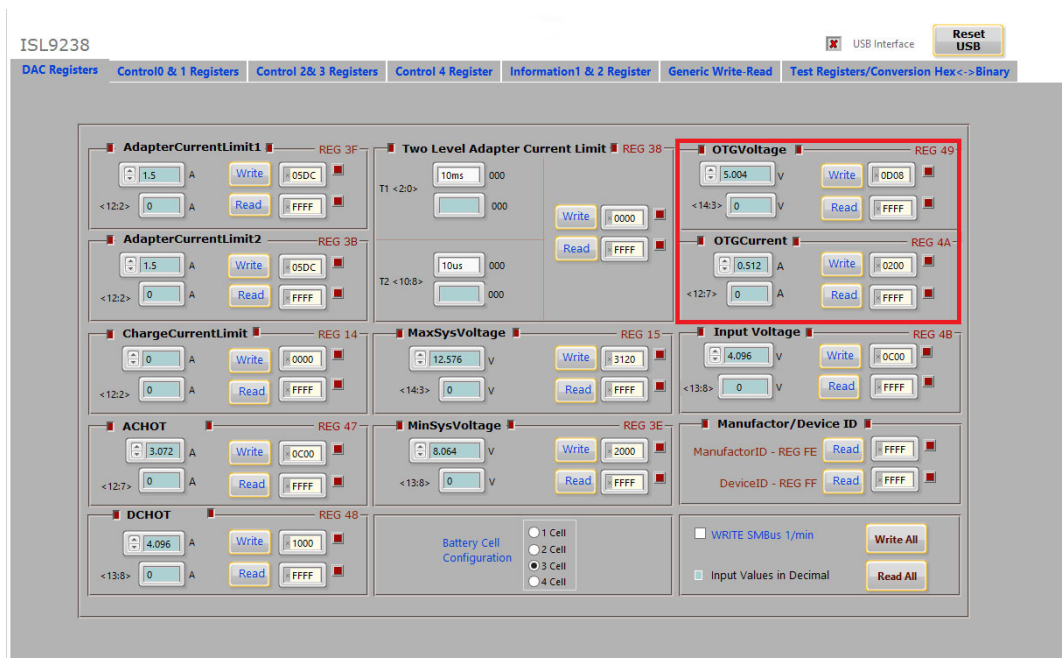

FIGURE 4. OTGVOLTAGE AND OTGCURRENT SETTINGS IN THE GUI
4. Open the ISL9238 GUI. The **OTGVoltage** is the voltage value for the load side, as shown in Figure 4 on page 5. The **OTGCurrent** is the OTG output current limit at the load side. These values can be set as needed within the output limit range. Refer to the ISL9238 datasheet for the **OTGVoltage** and **OTGCurrent** value ranges.
6. Switch SW2 on the evaluation board to the HI position. The load voltage is regulated as an OTGVoltage value, set in Figure 4 on page 5, and the LED 3 light is on, indicating the OTG function is enabled.